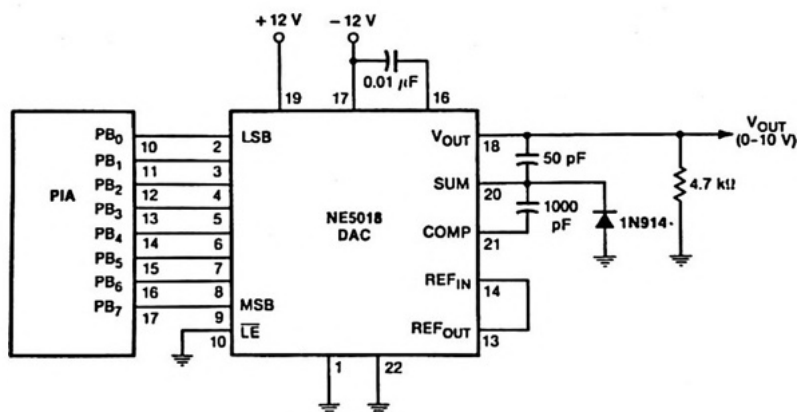

Figure 6-16
Schematic Diagram (Fig. 6-16)
Step 1 — Turn the computer power off and connect the NE5018 DAC to the PIA interface as shown in Fig. 6-16. (*Caution:* The NE5018 DAC is a MOS device and must be protected from static electricity. Make sure you are grounded and avoid touching the pins of the NE5018. When you are not using this device, store it in conductive foam or an antistatic tube.)
Step 4 — Run the program and observe the voltmeter reading. You should observe a constant voltage level of approximately 10 volts. This is the maximum output voltage level provided by the NE5018 DAC circuit in Fig. 6-16. If you did not obtain any output, check your circuit and program for possible errors.
The NE5018 in Fig. 6-16 is connected to port B of the PIA. Consequently, the associated software must first configure port B of the PIA for output. This is accomplished by lines 10 and 20 in the preceding programs. The DAC will then output a voltage level which corresponds to the digital value written to the port B data register located at address 65346. The first program simply writes the value 255 to the port B data register. Since the NE5018 is an 8-bit DAC, the value 255 will provide a maximum output voltage level from the DAC. The second program is a ramp generation program that sequentially writes values from 0 to 255 to the DAC. Consequently, the DAC output increases from 0 volts to its maximum (approximately 10 volts) then drops back to 0 volts. The ramp cycle is then repeated.